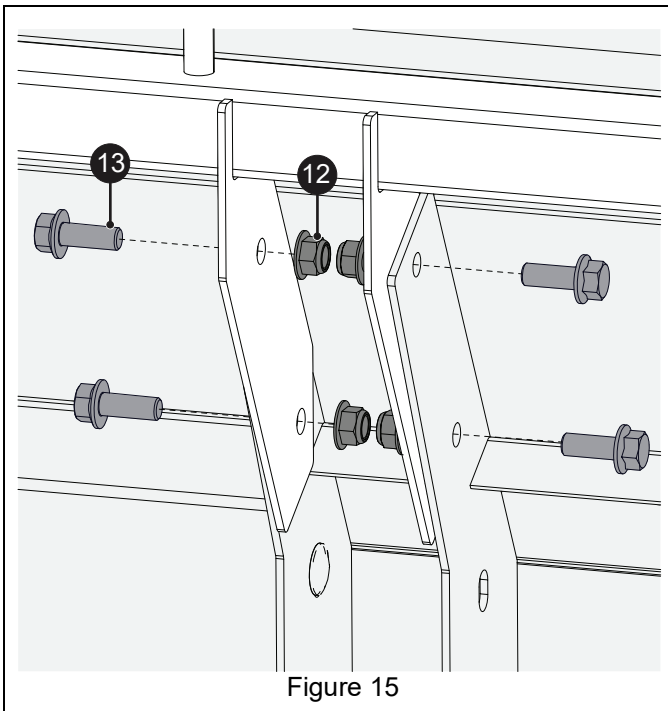

Figure 15
2. Secure salt spreader assembly to main mount assembly with four 3/8" x 1" hex bolts (item 13) and four 3/8" nylon flange nuts (item 12). See Figure 15.